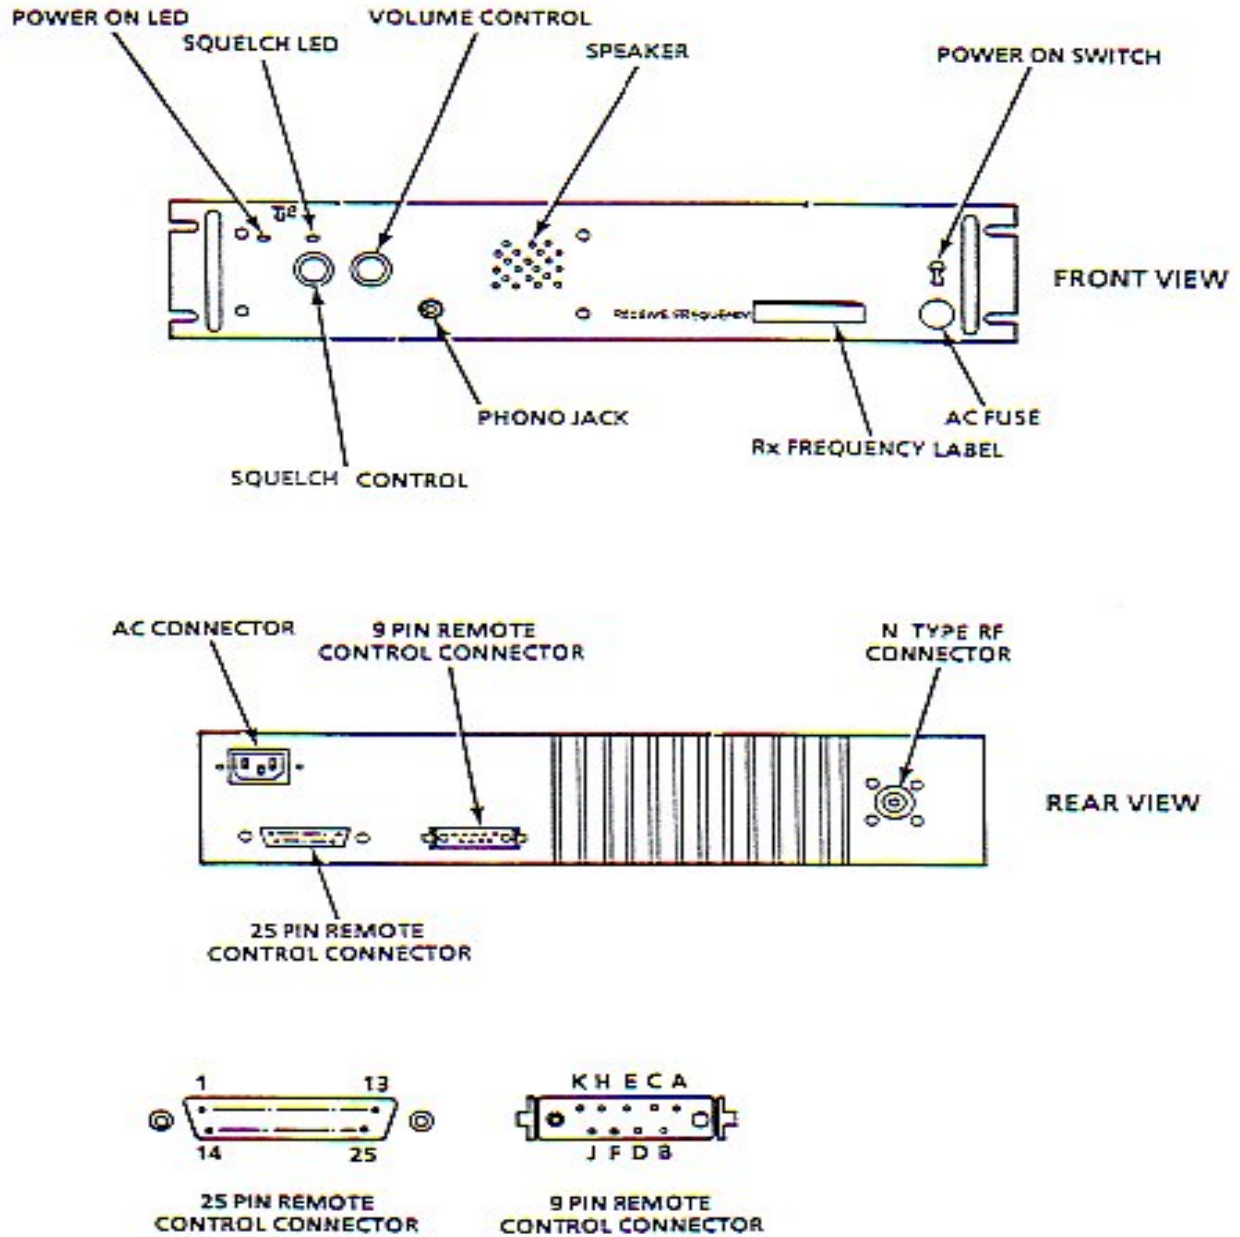

Figure 3.1 Single Channel Receiver Controls and Indicators
Provision is made for connection of an external loudspeaker or headphone to the SPEAKER/PHONE jack of the receiver, as shown in Figure 3.1.
- (1) Mount Receiver in 19 inch rack with 4 screws.
- (2) Ensure that Receiver POWER ON/OFF switch is set to OFF.
- (3) Install AC line cord in AC chassis connector on rear panel.
- (4) Install Remote Control connector to 9 Pin or 25 Pin connector as required. (Refer to Figure 3.1 for connector pin outs.)
- (5) Connect antenna connector to rear panel chassis N Type connector.
A view of the front and rear panel is given in Figure 3.1. A functional description of each of the operator's switches, controls and indicators are given in Table 3.1, Operator's Switches, Controls and Indicators.
- (1) Set AC ON/OFF switch to OFF.
- (2) Refer to Table 2-3 for pin numbers and Figure 3.1 for pin locations to hook up external DC Power.